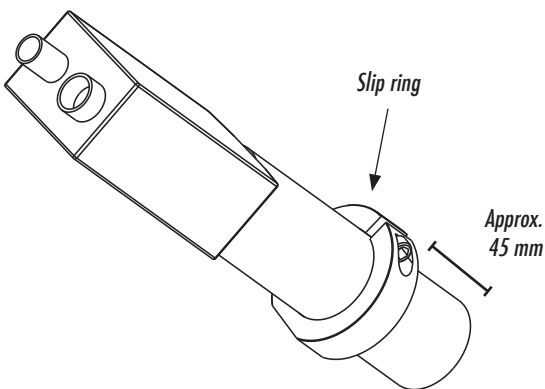

Figure 4.1: The optical tube should extend approximately 45 mm below the slip ring.
- 3) While supporting the CCD camera with one hand, loosen the optical tube fastener at the top of the slip ring using a 9/64 Allen wrench. Rotate the optical tube until the CCD camera is aligned horizontally, then tighten the optical tube fastener to hold the CCD camera in place. (See Figure 4.1)